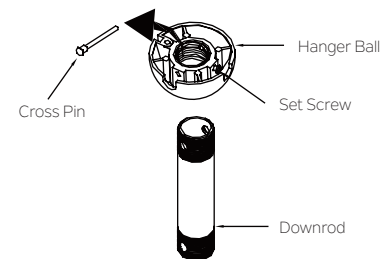

Fig. 7
Step 3. Remove the hanger ball from downrod assembly by loosening set screws, removing the cross pin, and twisting ball off the rod. (Fig. 7)